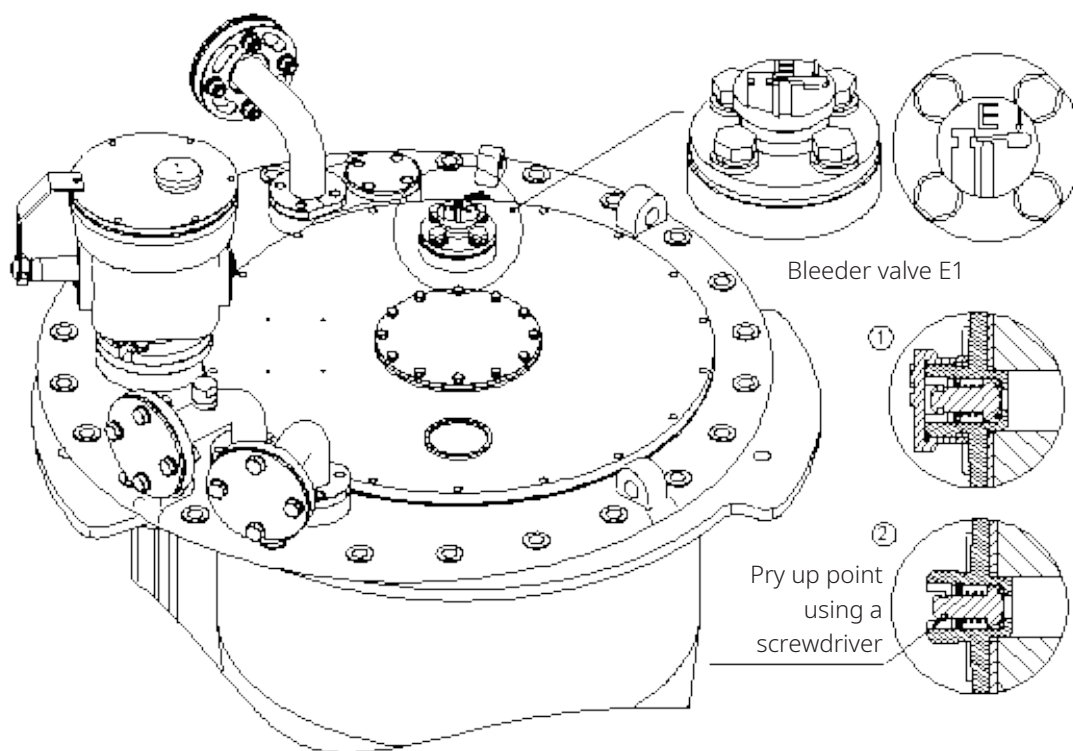

Figure 9-1 Degassing Procedure for Bleeder Valve
- Use a screwdriver to pry up the valve stem and allow air to escape from the OLTC head until oil flows out (see Figure 9-1).